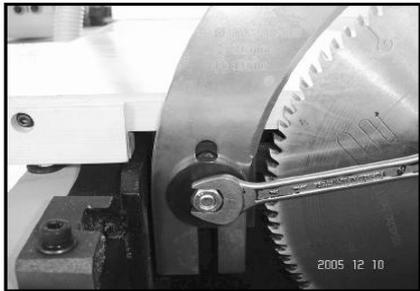

Fig. 44
5. Loose the riving knife center bolt, slide the riving knife away from the blade and slightly tighten. (Fig. 44)